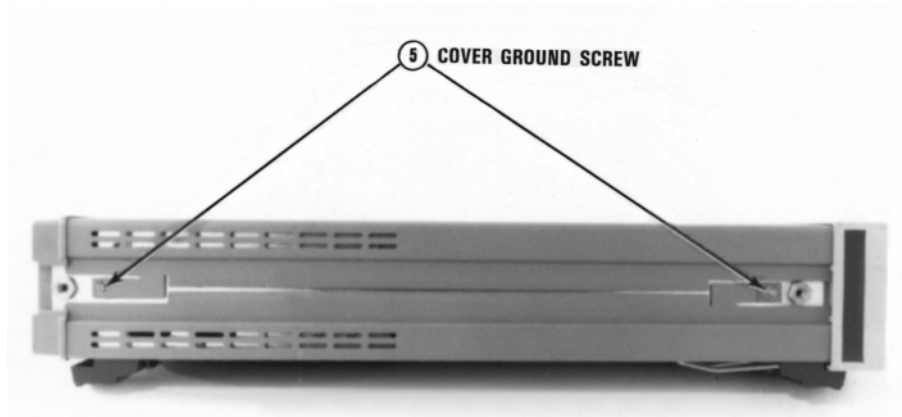

Figure 8. Remove/Install Cover Ground Screws
7. Refer to Figure 8. Use the #TX10 Torx driver to remove both or either the top and bottom cover ground screws, depending on which cover is to be removed.
16. Refer to Figure 8. Turn the instrument so its left side faces you. Use the #TX10 Torx driver to reinstall the top and/or bottom cover ground screws.